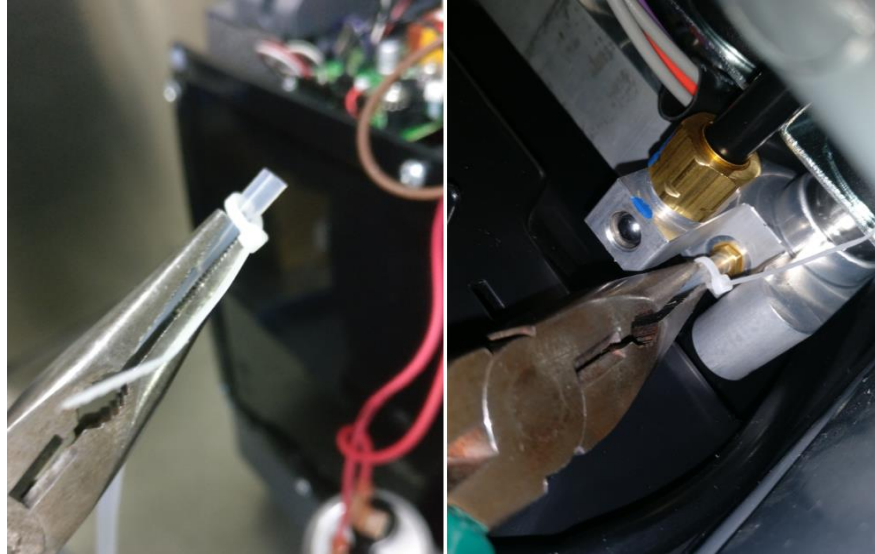

Figure 2
3. Use long nose pliers to clip and install the cable tie TW011-2 and silicone tube 21424242. See figure 2.